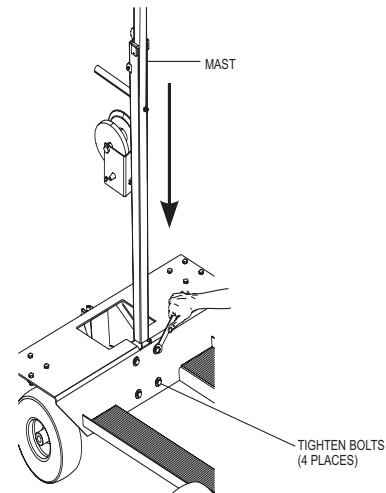

Figure 10. MBC Mast Installation
4. Slide mast into the slot in the cart as shown in Figure 10. Tighten the 4 bolts to keep the mast in place.